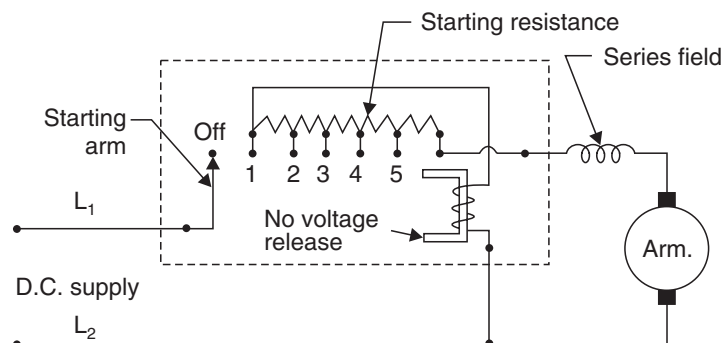

Fig. 77. Four-point starter.
- Fig. 77 shows a simplified diagram of a *four-point starter*.